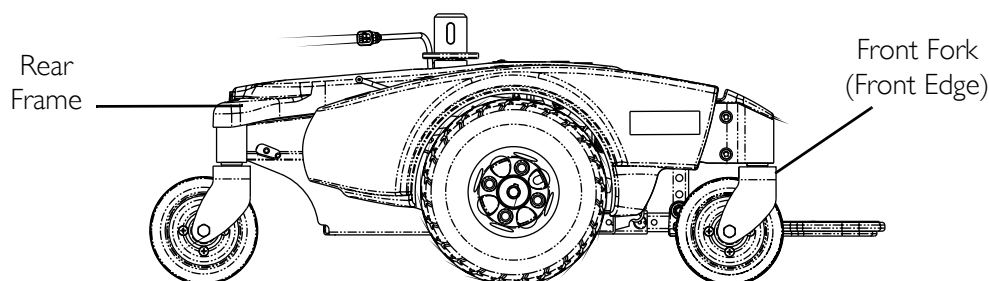

FIGURE 3.4 Lifting/Stairways
NOTE: For this procedure, refer to FIGURE 3.4 on page 20.
5. Ensure that the casters are oriented as shown in FIGURE 3.4.
6. Using the rear and front forks as hand hold supports, transfer the wheelchair base to desired location. Refer to FIGURE 3.4.